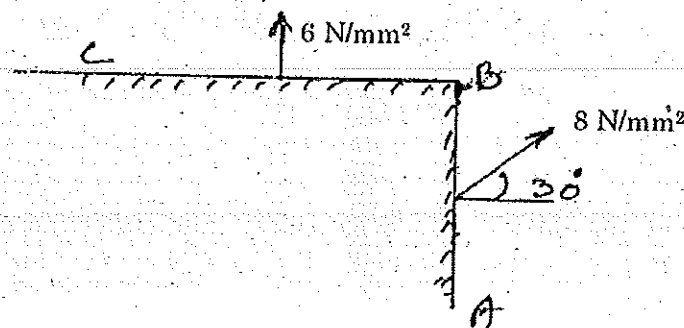

Fig. Q.16(a)
16. (a) The intensity of resultant stress on a plane AB (Fig. Q.16(a)) at a point in a material under stress is 8 N/mm² and it is inclined at 30° to the normal to that plane. The normal component of stress on another plane BC at right angles to plane AB is 6 N/mm². Determine the following: (15)